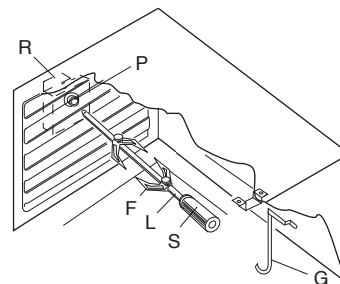

Fig. 8C
- Put the food in spit **L** (see fig. 8C), paying attention to block it within the two forks **F** and to balance it, in order to avoid any unnecessary effort in motor **R**.
- To remote the spit, operate in the opposite direction using knob **S** and protecting glove in isolating wool (fig.8C).